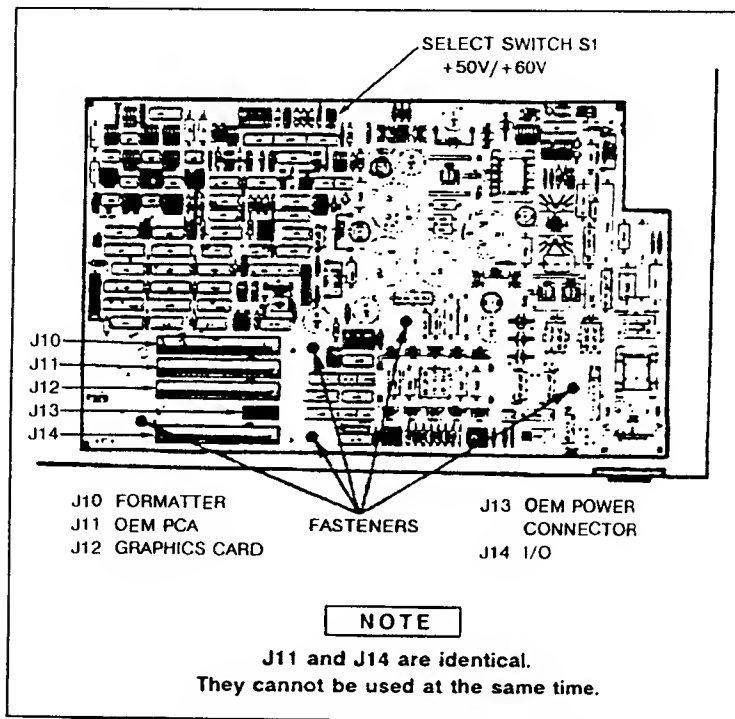

Figure 6-5. Analog PCA Fasteners and PCA connectors.
If the formatter PCA is not plugged in connector J10 (Figure 6-5), the printer will not work properly. The I/O and Graphics PCA's are normally connected as shown in Figure 6-5, however, some OEM's may use different slots for the I/O and Graphics PCA's.
- e. Pull up on the six (6) plastic fasteners on the PCA (see Figure 6-5) to release the PCA from the printer base.